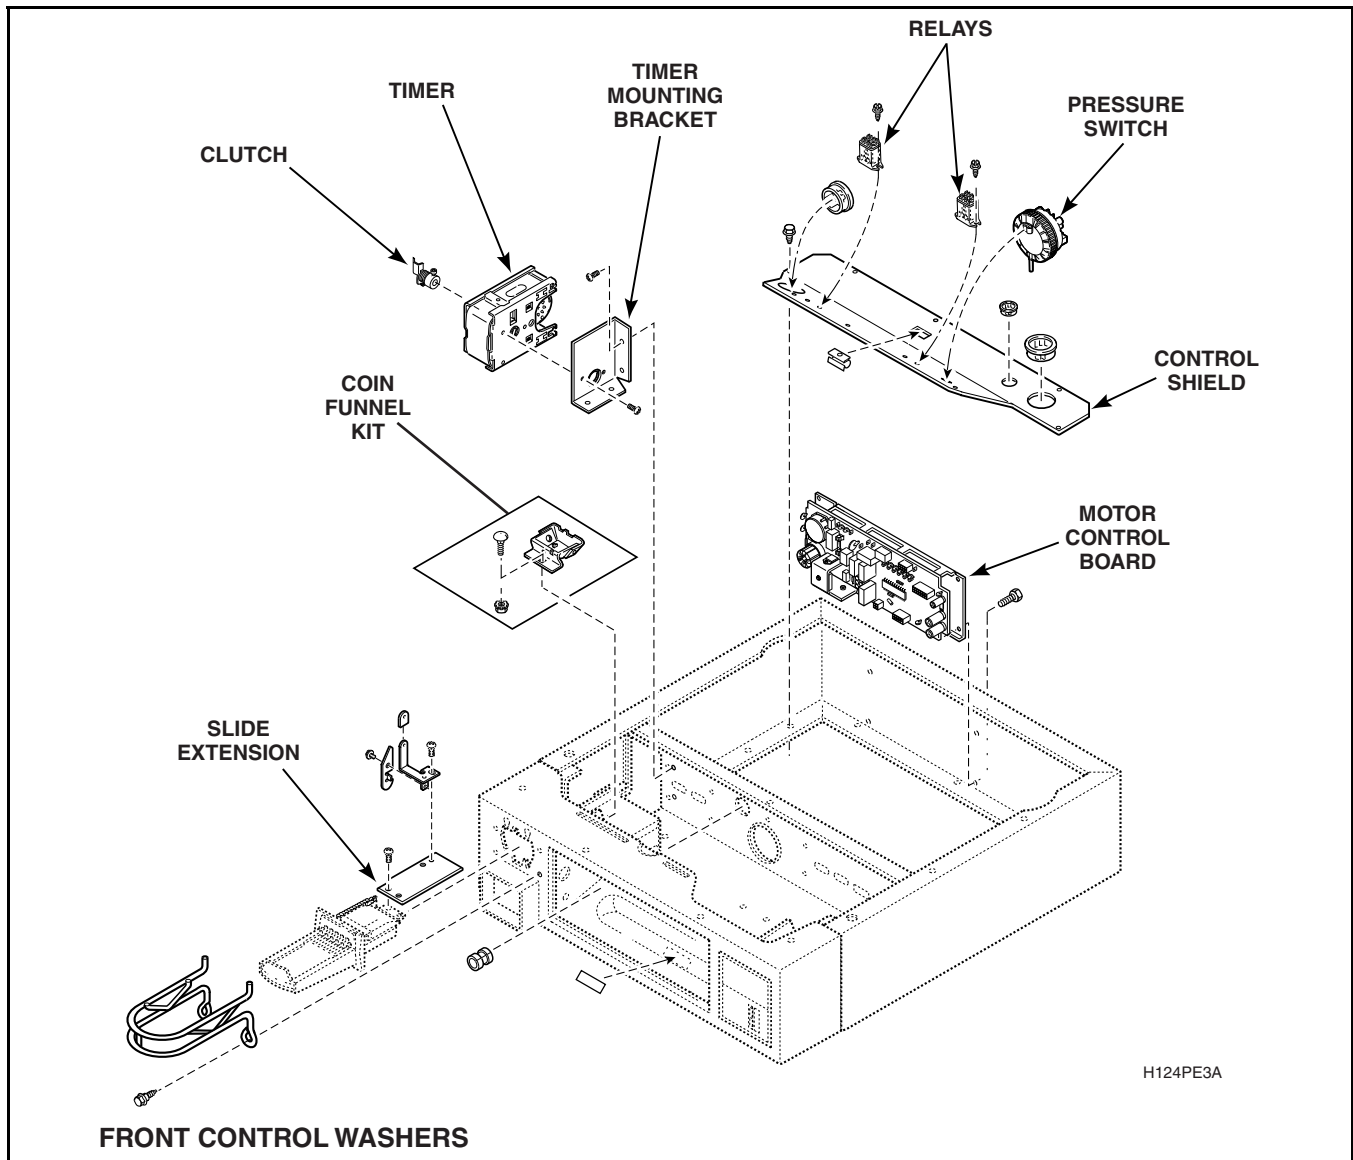

Figure 39
- b. Remove screws holding timer and mounting bracket to control cabinet or meter case. Refer to *Figures 39 or 40*.